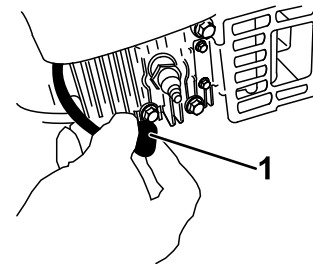

Figure 37
2. Disconnect the spark-plug wire from the spark plug (Figure 37).